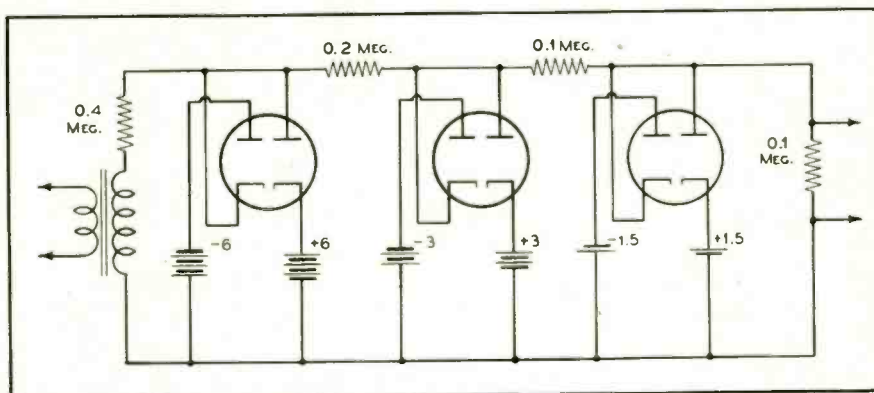

Figure 1
The circuit of the speech clipping amplifier is shown in *Fig. 1*. Three advantages result from this procedure: (1) The effective range of the transmitter when using pre-modulation speech clipping is greatly increased, (2) over-modulation is permanently prevented, and (3) interchannel interference due to over-modulation is practically eliminated. The third factor may be still further improved by the introduction of a low-pass filter between the clipped and the speech amplifier.